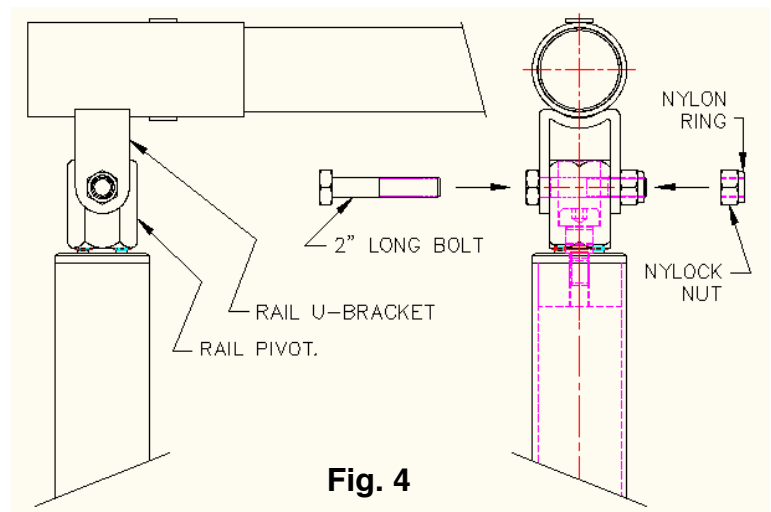

Fig. 4
4. Using a measure tape, measure the diagonal corner to corner distance of the bases in **Station 1** as shown in **Fig. 4** on the next page. If required, **loosen the Clamp** on the Upright of the **Just for Kids Single Base (#355-01)** side and slide the Just for Kids Single Base (#355-01) as required to even out the diagonal distance. **Use diagonal measurements (92-3/8") to help square up the bases. When measured, the two diagonal distances should be approximately the same.**
1. Locate (1) rail and (2) Adjusting Tubes.
3. Working with one (1) Adjusting Tube at a time, place the rail pivot, which is located at one end of the Adjusting Tube, into the U-bracket. **See Fig. 4** below. The locking holes in the Adjusting Tube must face outwards (end of the rail).
5. Tighten the Nylock & bolt snug, but don't over tighten. A small play between the U-brackets and rail pivot need to allow for the bar to flex. **See Fig. 4** below.